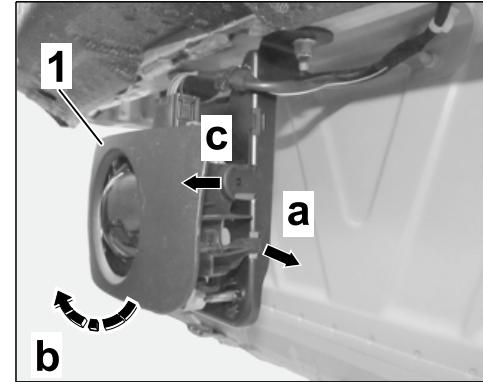

Figure 6
- 1.8.1 Release trim cover  $\Rightarrow$  Figure 6
-1- at the left and right  $\Rightarrow$  Figure 6
-arrow a- and swivel it up  $\Rightarrow$  Figure 6 -arrow b-.
- 1.8.2 Disengage trim cover at the top left/right  $\Rightarrow$  Figure 6 -arrow c- from the holder and remove it.